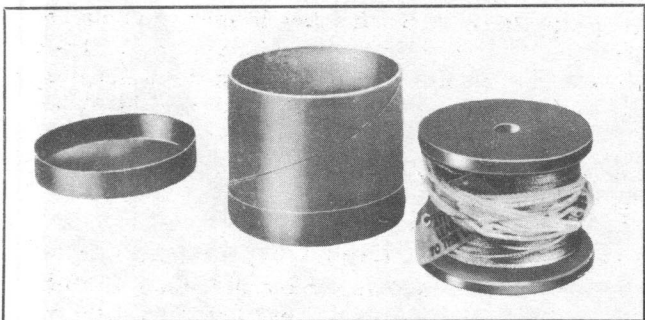

Figure 1-7. Antenna Assembly AS-207/CRT-3
f. ANTENNA ASSEMBLY AS-207/CRT-3.—This antenna assembly (see fig. 1-7) consists of a 306-foot length of wire, fitted with nylon insulating cords at both ends. At one end the short length of nylon cord is fastened to a swivel and clasp, which is part of the assembly and which serves to fasten it to a kite or balloon. At the other end, one length of the nylon cord serves to fasten the assembly to Reel RL-48 and the other is a securing cord which is fastened to the life raft during operation. One of these antenna assemblies, wound so that the clasp is on the outside of the winding, is furnished on Reel RL-48. Two spare assemblies are furnished on wooden bobbins, contained in cardboard cartons. These assemblies are wound in such a direction that when they are rewound on Reel RL-48 the clasp is on the outside of the winding.